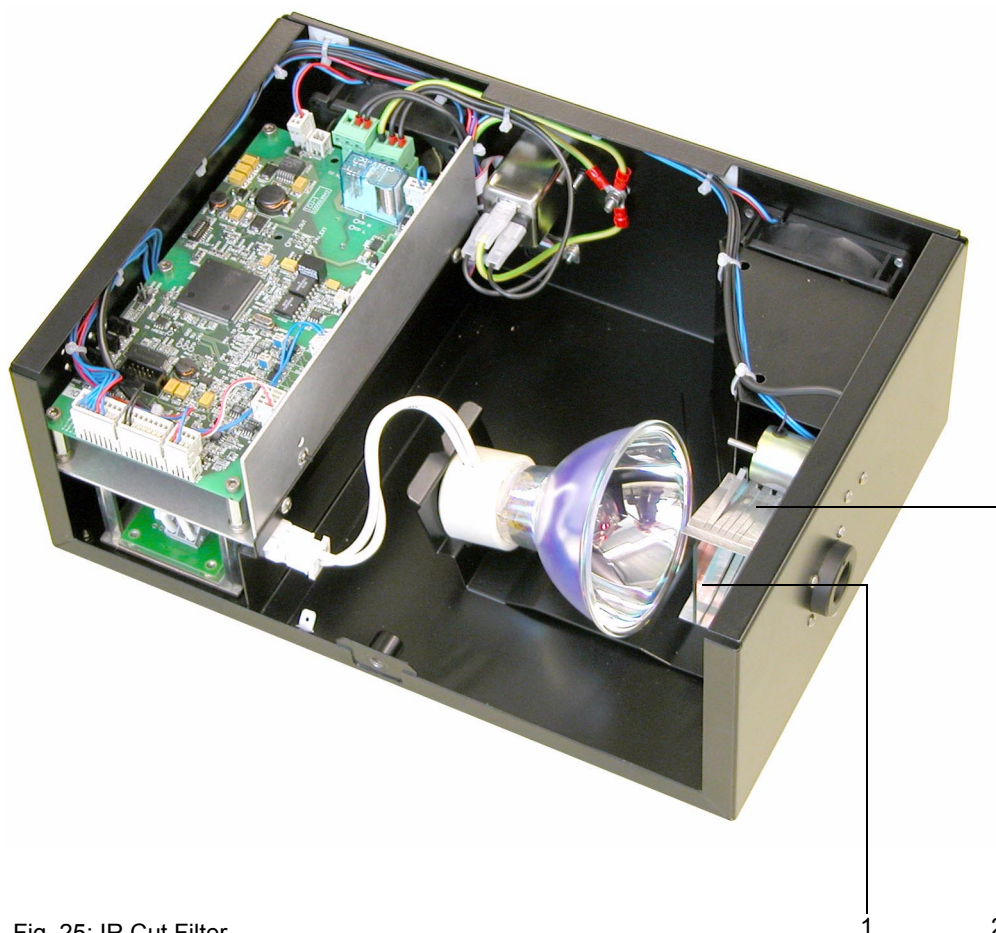

Fig. 25: IR Cut Filter
4. **Fig. 25:** Remove the old IR cut filter (1) from the filter holder (2).